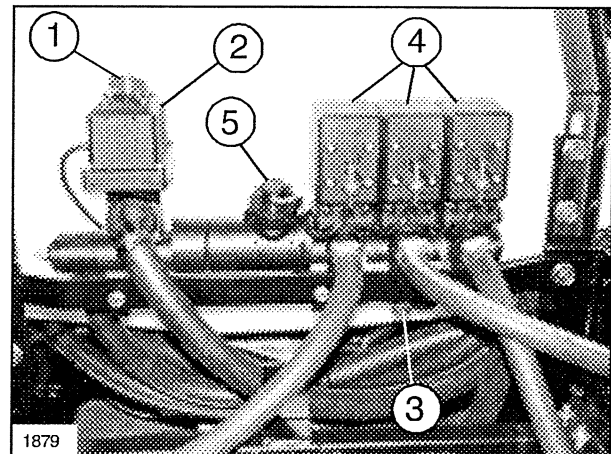

FIG. 3
## SPRAY CONTROL MANIFOLD (FIG 3)
**6. RATE CONTROL VALVE:** Determines application rate by regulating amount of fluid that is bypassed to tank or pump suction. (See FIG. 3)
**7. BOOM CONTROL VALVES:** Directs flow to individual boom sections. When "OFF", flow is directed back to tank. This can be manually overridden if Electrical Conductor is disconnected. Green protrusion behind valve stem indicates valve section is "ON". See FIG. 3, page 50.
**8. BOOM BYPASS VALVES:** Manual adjustment to equalize restriction of the particular Boom Section when a section is turned "OFF." See FIG. 3, page 50.
**9. FLOWMETER:** Measures amount of fluid flowing to Boom Control Valves. See FIG. 3, page 50.